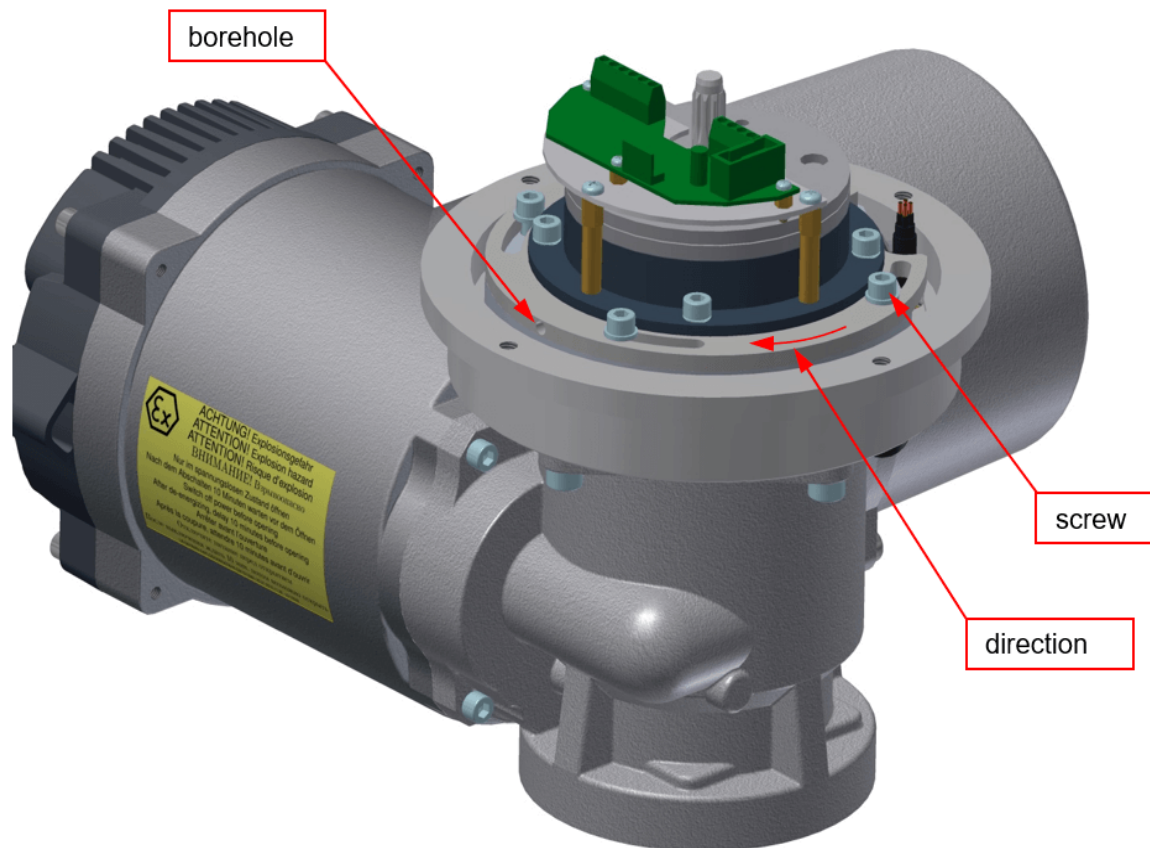

Figure 11: Adjusting speed
2. Loosen but do not remove 4pcs of screws according Figure 11, page 19
4. Turn flange by use of allen key in direction according Figure 11, page 19